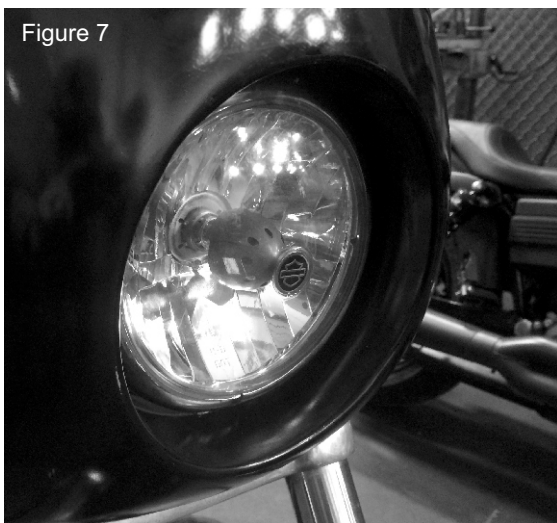

Figure 7
6. Place fairing around the headlight allowing the headlight to sit inside the headlight bucket, see Figure 7. Align adjustment brackets (D) with fairing brackets (C) and fork brackets (E). Install adjustment brackets (D) using (K)(I)&(L). See Figure 4,5 & 6 for suggested configuration for your application.